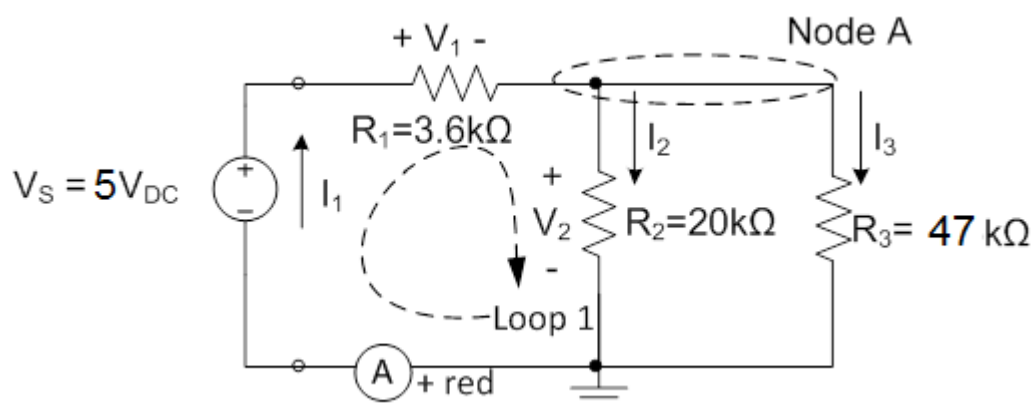

Figure 2-1: Three resistor circuit
- Copy Figure 2-1 in your lab book. You are going to build this circuit during lab using the resistors in your kit.
- Use the measured values of the resistors in your kit to calculate the values of the voltages and currents labeled in Figure 2-1. Use the voltages and currents to calculate the power delivered or absorbed for each element and organize your results in a table. Confirm that the circuit obeys the law of conservation of energy.
- Simulate the circuit in Figure 2-1 in NI Multisim. You will use the same multimeter
You are going to build the circuits in Figures 2-1 and 2-3 and make measurements using the DMM.
2.1 Three Resistor Circuit. Construct the circuit of Figure 2-1 on your breadboard. Each vertical column of five holes in the breadboard is one node; i.e., the five holes are all connected together but are not connected to any neighbor. Before you start taking measurements organize and plan your data table(s).
- Circuit of Figure 2-1 with all components labeled